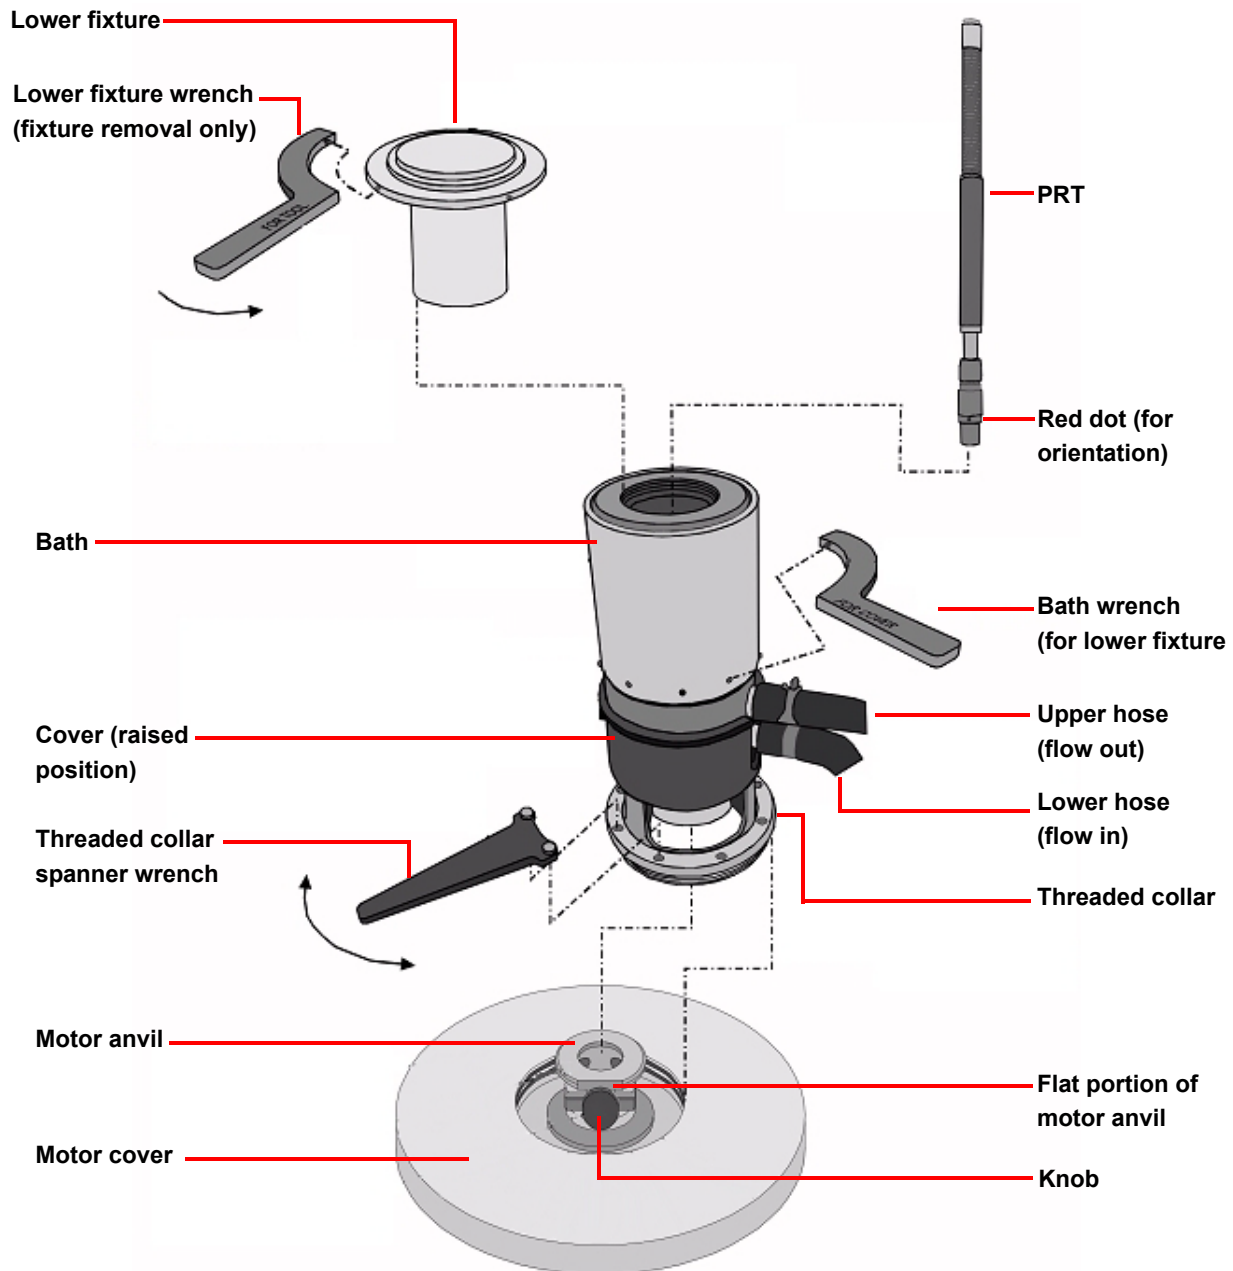

Figure 2 Overview of Sealed Fluid Bath assembly and installation.
Follow these instructions to install the Sealed Fluid Bath. Refer to Figure 2 for an illustrated parts and assembly breakdown.
- 4 Insert the appropriate PRT into the bath, making sure to align the red dot on the PRT with the flat portion of the motor anvil. Refer to Figure 2 for correct orientation. Rotate the PRT until it drops securely into the bath housing. The instrument will begin to read temperature.